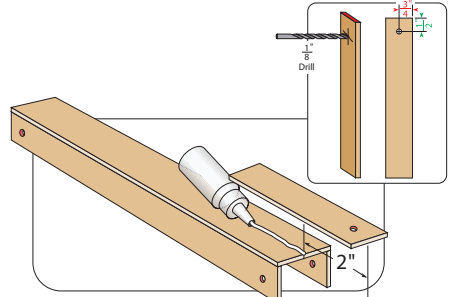

Figure 6
5. Make a mark 1/2" from one end of the piece and drill a 1/8" hole in that spot. The hole should be centered in the middle of the piece (Figure 6 corner).
6. Place the 1-1/2" x 5" piece of wood in the center of the racer body with the side rails pointed down (Figure 6). Be sure the end with the hole hangs over one end at least 2" before gluing it into place.